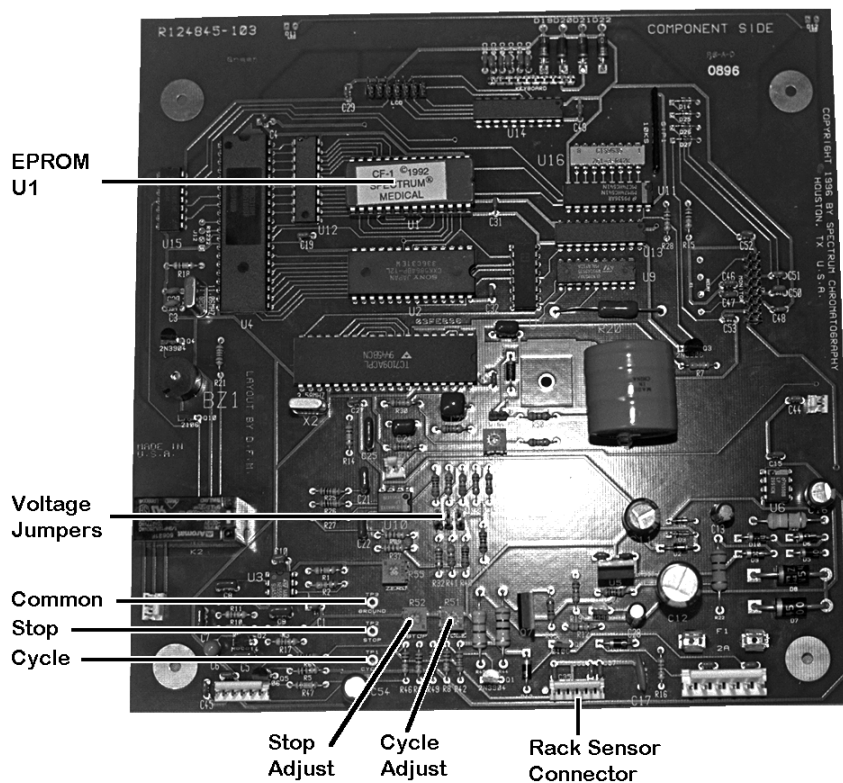

Figure 7-4. Circuit Board Layout
2. Disconnect the sensor plug (Figure 7-4) from the circuit board.
3. Use an electronic voltmeter to measure the sensor response, connect the red (+) lead to the cycle test-point on the circuit board (Figure 7-4) and the black (—) lead to the common test-point.
5. Turn the drive shaft on the case top to cause the racks to move. Be careful to only move the racks in the forward (normal) direction. Attempting to move the racks backward may cause them to break. Observe the voltage at the cycle test-point as the racks move. The racks have holes in their sides which are detected by the cycle sensor. As a hole moves in front of the sensor, the voltage measured should drop to less than 1.5V; as a solid moves in front of the sensor, the voltage measured should increase to at least 3.8V. Adjust the cycle adjustment (Figure 7-4) until these levels are met; turn the cycle adjustment clockwise to decrease the voltage and counter-clockwise to increase the voltage. If adjustment the cycle adjustment does not allow you to meet both level requirements, you will need to either clean the sensor or replace it.
8. The stop sensor should read less than 1.2. If necessary, use the stop sensor adjustment (Figure 7-4) to reduce this voltage. Advance the racks until a white rack is in position. The stop sensor voltage should now be greater than 3.8V. If the stop sensor voltage is not greater than 3.8V, use the stop sensor adjustment to make it so and repeat step 6 (be sure to reset the meter leads). If you cannot obtain both the 1.2V and 3.8V limits with a single setting you will need to either clean or replace the rack sensor.
2. Locate J6, J9, and J10 in figures 7-4 and 7-5. There should be a small jumper bridging one of these sets of pins. Remove this jumper but do not discard it.
2. Locate U1 in Figure 7.4. Make note of its orientation and use a small screwdriver to alternately pry each end of the IC from its socket until it is free.